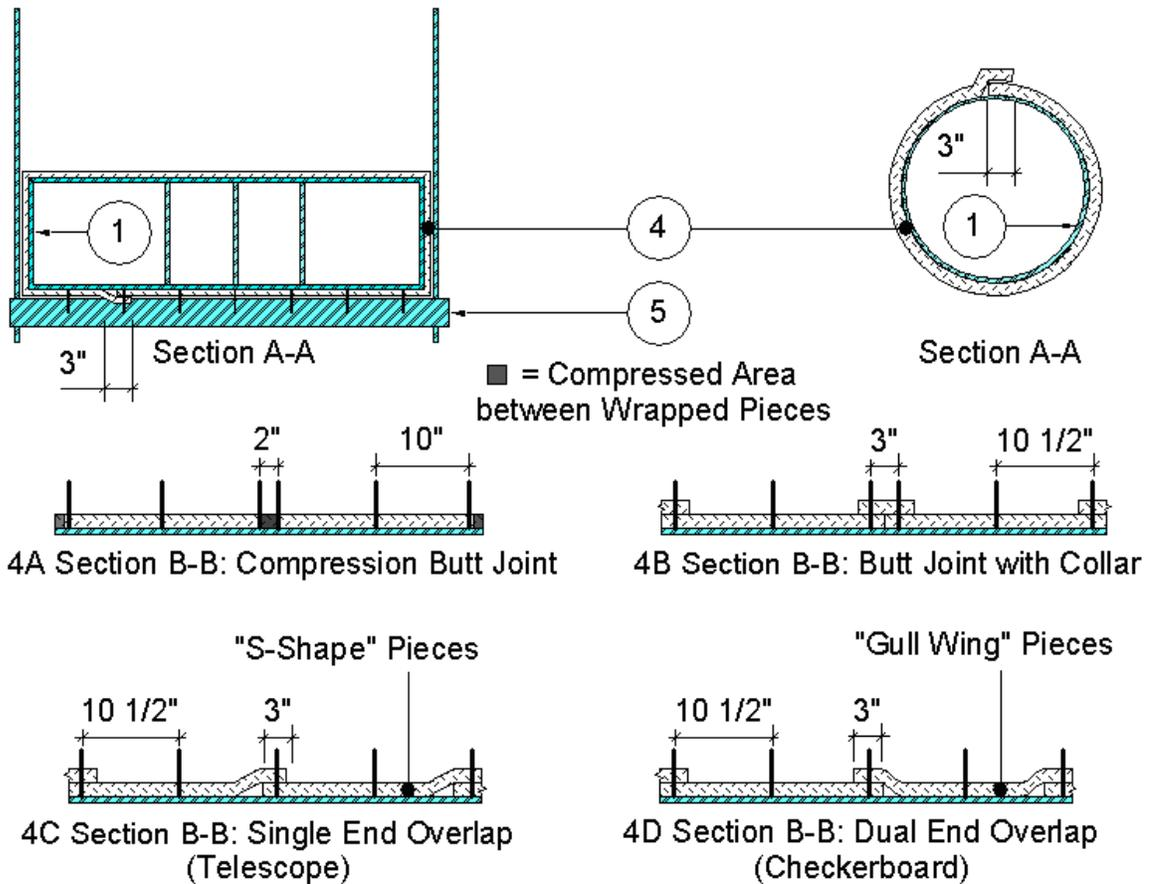

Figure 2
2. FASTENERS: Refer to Figure 2. Weld min. 12 GA, 4-1/2 in. long, copper-coated steel insulation pins or 12 GA insulated cup head pins to the ventilation duct (Item 1). Match fastener method with corresponding insulation (Item 4) method.
INSULATION: Refer to Figure 2. Apply one layer of nominal 1-1/2 in. thick, 6 pcf blanket, made of fibers, encapsulated with foil scrim over the entire surface of the ventilation duct (Item 1) and a collar on each side of the penetration firestop (Item 1D). Apply the insulation in accord with one of the four methods (A, B, C, or D)